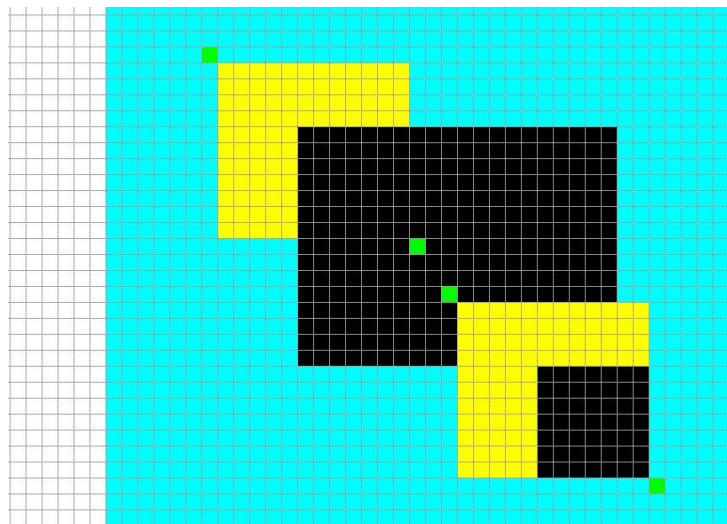

Figure 6-12
1. Copy All - Copy all the graphics in the selected area to the target area as shown in Figures 6-12;